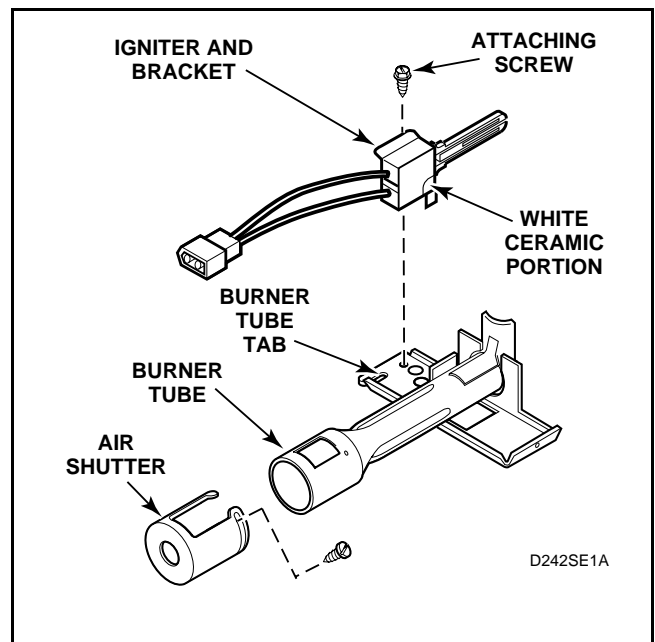

Figure 14
- (5.) Remove screw holding igniter and bracket to burner tube and remove igniter and bracket. See *Figure 14*.